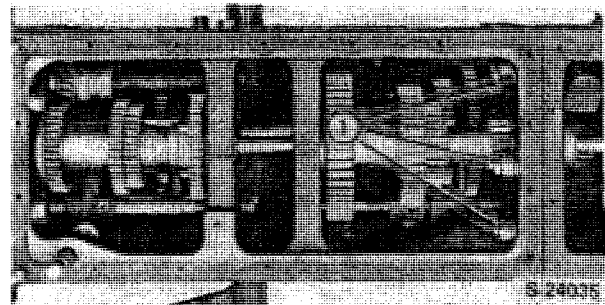

Figure 32
20. Remove the three internal buckle-up bolts (1), Figure 32.